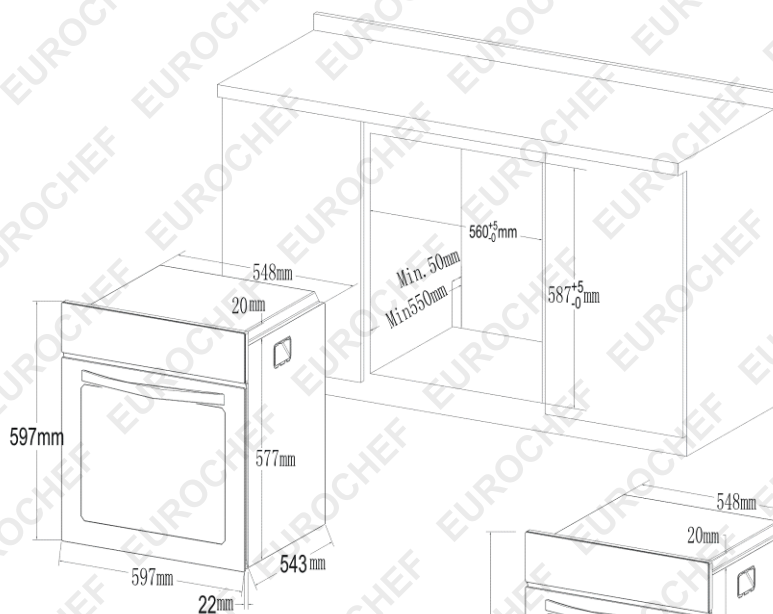

Figure 1
3. Carpentry: Refer to figure 1 or 2 for the appliance dimensions to your oven, and the space necessary to install the oven. The oven support surface must be solid plywood or similar material, and the surface must be horizontal from side to side, left to right and front to rear.